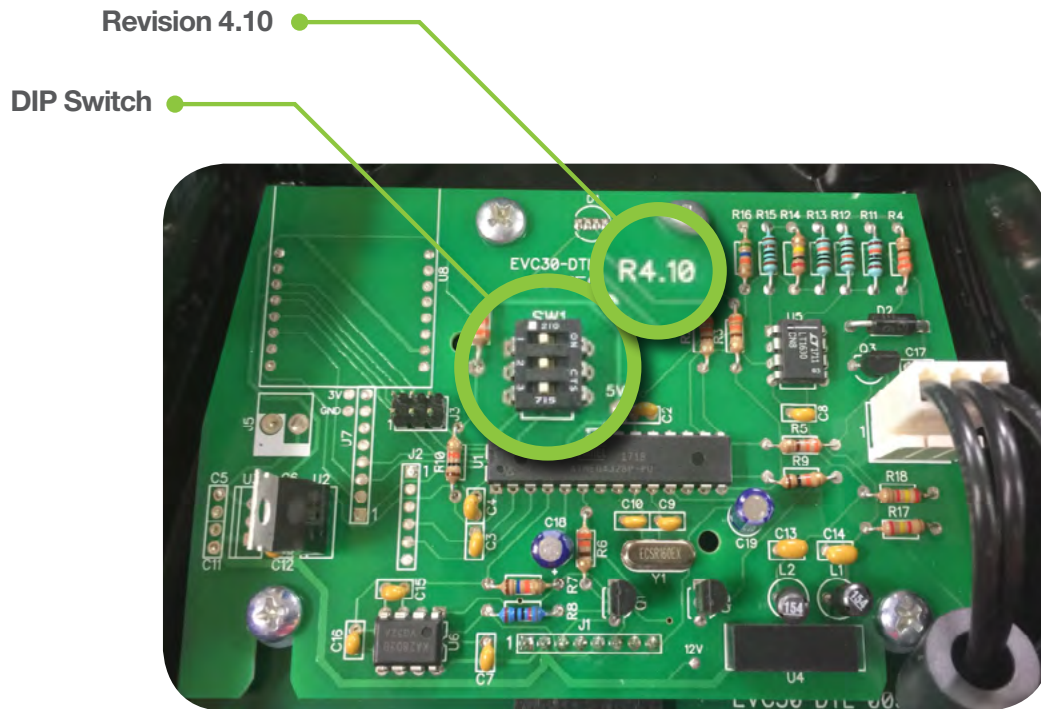
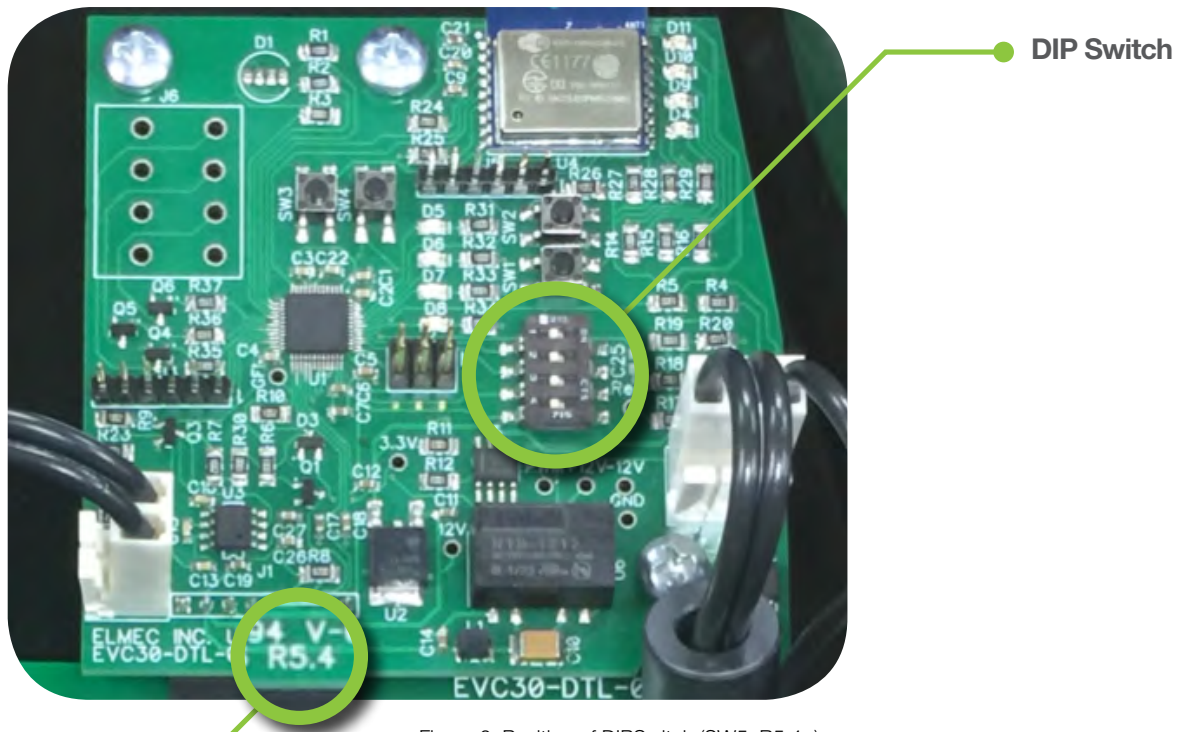

Figure 5: Position of DIPSwitch (SW1, R4.10)
Figure 6: Position of DIPSwitch (SW5, R5.4+)
3. Remove the six (6) screws holding the back plate to the charging station's enclosure.
5. Using a small flat screwdriver, modify the state of the DIP Switch by moving the small white levers to the left or to the right according to the desired value. Please refer to Figure 5 and Figure 6 and also to Table 4 and Table 5 depending on the revision of the control circuit board installed in the unit.